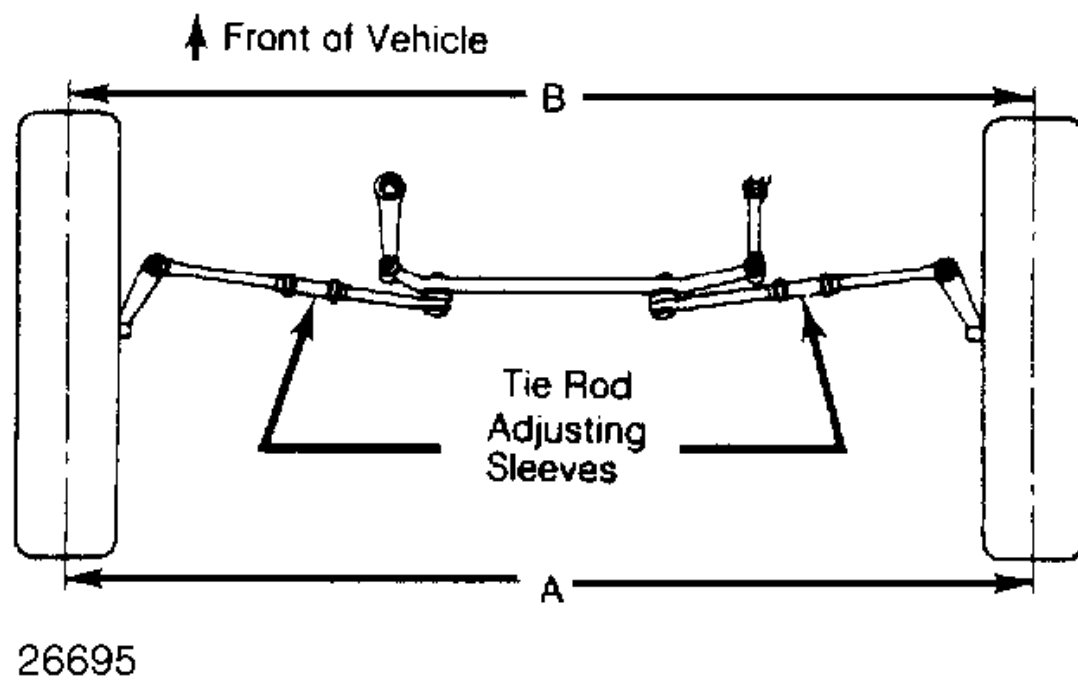

Fig. 2: Adjusting Tie Rod Sleeves (Top View)
- Steering wheel must be centered with wheels in straight ahead position. If required, shorten one tie rod adjusting sleeve and lengthen opposite sleeve (equal amount of turns). See Fig. 2.
- 1) Measure toe-in with front wheels in straight ahead position and steering wheel centered. To adjust toe-in, loosen clamps and turn adjusting sleeve or adjustable end on right and left tie rods. See Fig. 2 and Fig. 5.